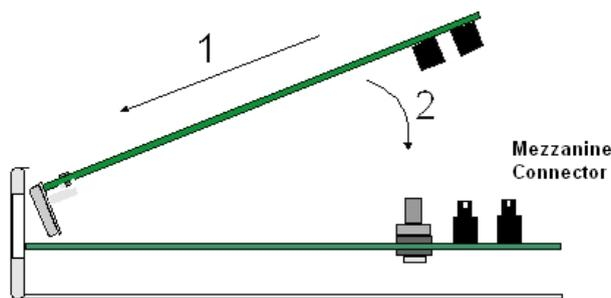

Fig. 18: Inserting the PMC expansion card
- (7) Place PMC board standoff posts over the securing screws. Secure these firmly.
- (8) Place the PMC card in the slot so that this firstly adjusts to the space on the device rear panel and subsequently to the two PMC connections. This operation must be carried out carefully, without forcing any piece or part of the device. Check that the board is clearly settled over the PMC connectors. Please see *Fig. 18* on page 12.